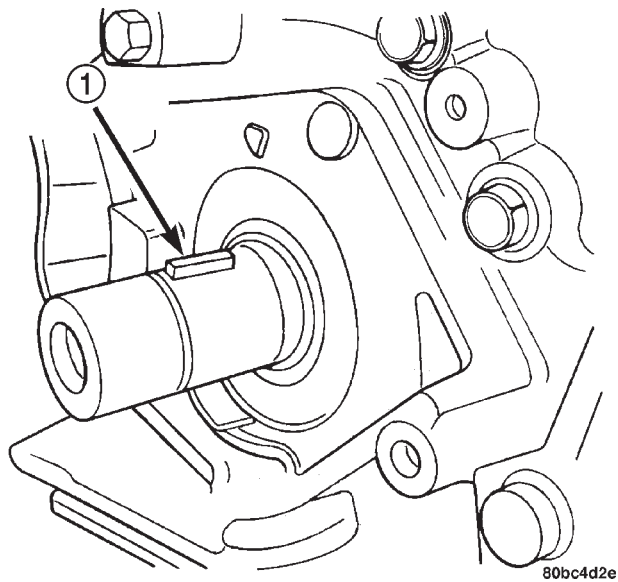

Fig. 85 Crankshaft Key
(5) Remove crankshaft sprocket key from crankshaft (Fig. 85).
(2) Install crankshaft sprocket key (Fig. 85).